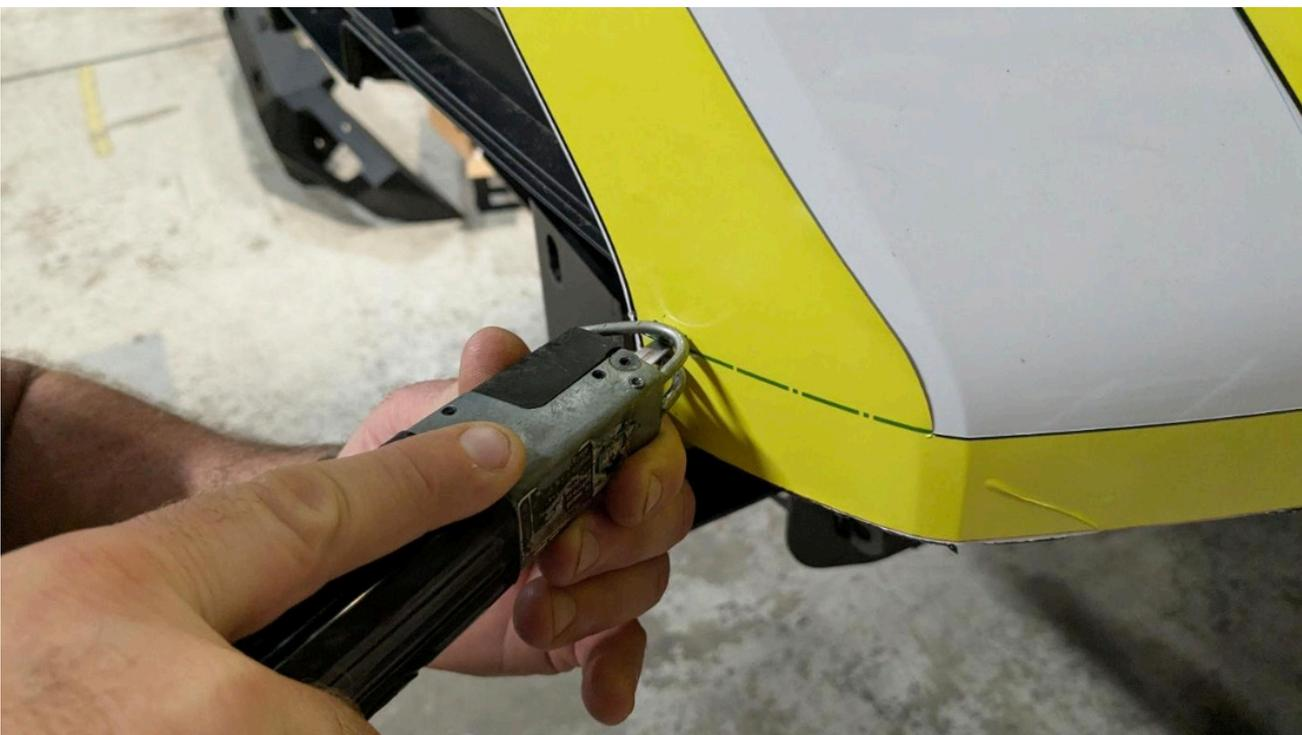

Figure 41
29. Following the template, cut the front facia along the “CUT LINE B”. It is recommended that the edge of the cutting blade remain below the template line to ensure a clean fit. (Figure 41)